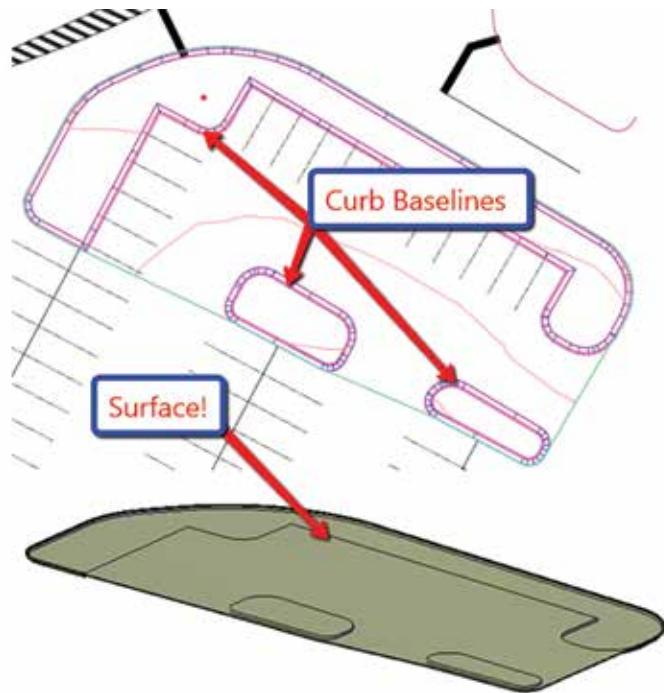

Figure 10
5. If the surface/corridor seems to be upside down, you simply need to select the feature line and use the reverse tool from the contextual ribbon (Figure 10).